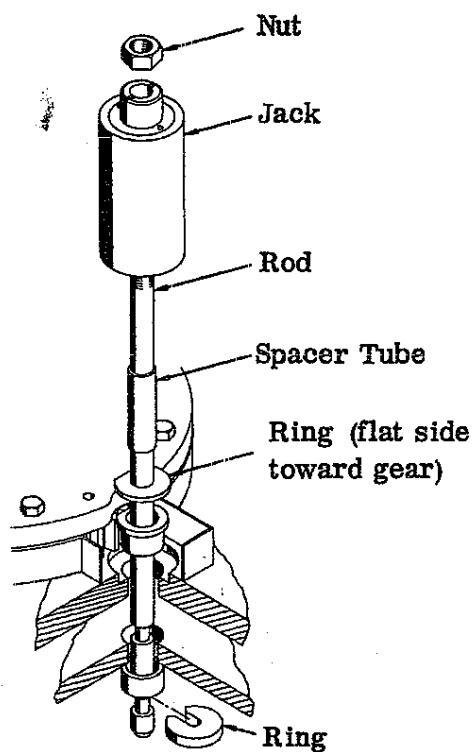

Figure E-12. Pinion Gear Bushing Installation
1. Assemble the tool as shown in Figure E-12. The flat side of the ring bushing set and the top bushing fits against the gear-bearing. A spacer is installed and then the hydraulic jack.